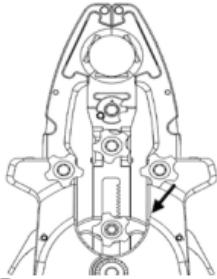

Figure 7
- Once the blades are installed, approximate the blade position by bringing the blades back to their neutral, start position (Figure 7).